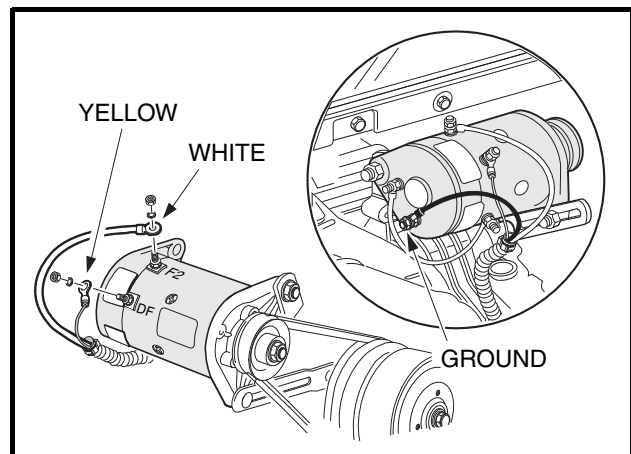

Figure 16-48 Starter/Generator
25. Connect the 6-gauge white wire to the F2 post and the 6-gauge black ground wire to the A2 post of the starter generator and tighten to 48 in-lb (5.4 N·m). Connect the 16-gauge yellow wire to the DF post and tighten to 30 in-lb (3.4 N·m) (**Figure 16-48, Page 16-20**).